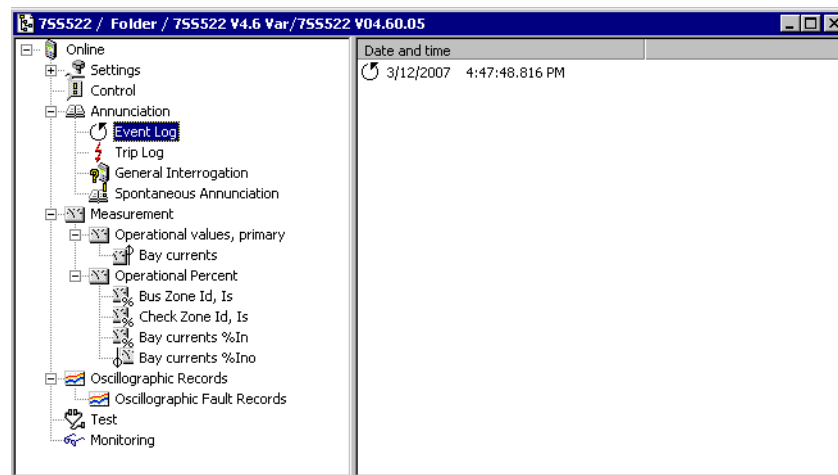

Figure 6-2 Overview of operational events in DIGSI – Example
- Click **Event log**. A list appears in the data window (right section of the window), (Figure 6-2, page 244).